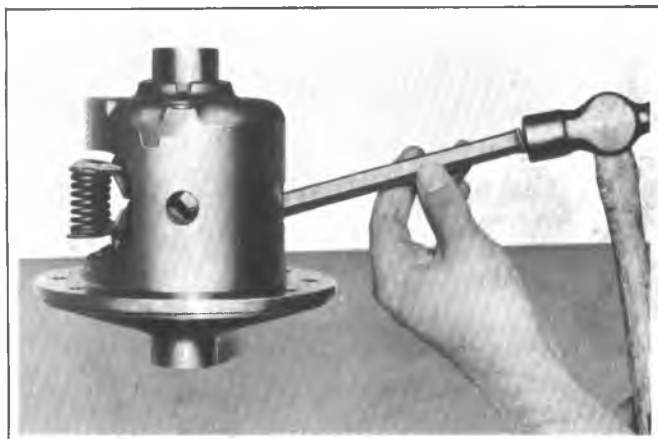
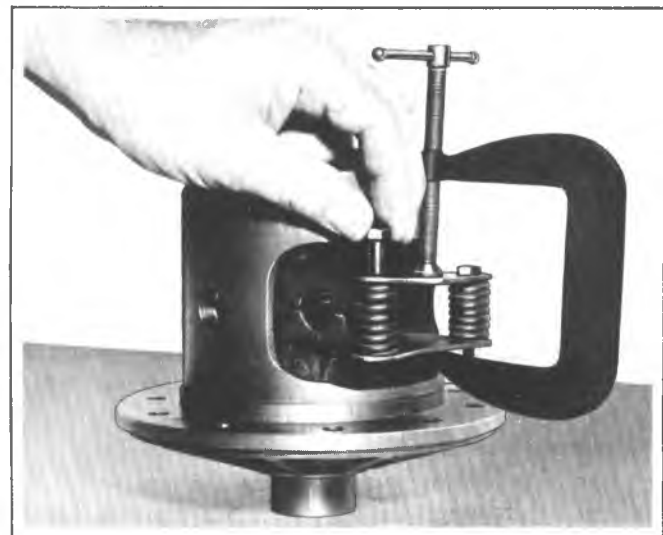

Fig. 2D-Removing Preload Spring Pack (Typical)
Fig. 3D-Installing Bolts to Retain Springs
2. Remove the preload spring retainer and springs by tapping on the spring retainer through the observation hole in the case. See figure 2D. Drive the spring retainer from the case sufficiently to allow insertion of a 1/4 inch bolt in each of the two front springs. Secure each bolt with a nut as in figure 3D.